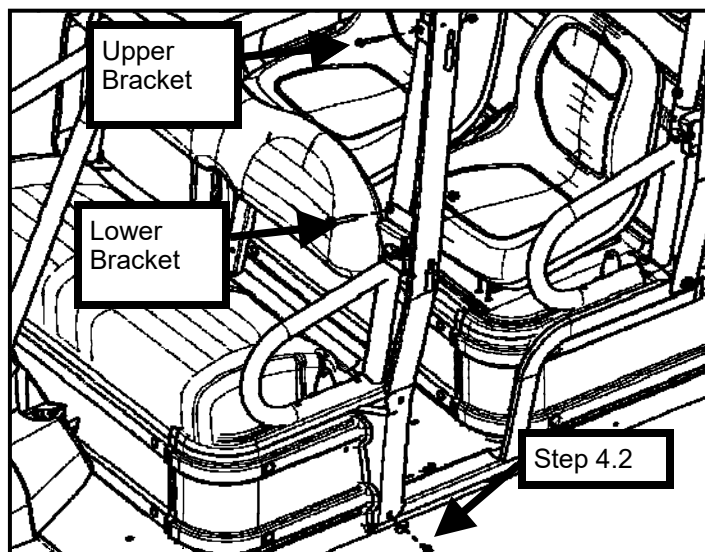

Figure 4.1: B-Pillar panel, (left shown)
- (1) M10 x 1.50 Flanged nut
Place the B-pillar panel onto the side of the Carryall over the center ROPS tube, then place one (1) 5/16 x 2-1/2" bolt through the upper bracket, one (1) M10 x 70mm bolt through the lower bracket and through the holes in the ROPS and secure with a 5/16" and 10mm nut, respectively. Leave bolts loose (**Figure 4.1**).
- (1) 5/16 Fender washer
- (2) 5/16-18 Flanged nut
Connect the B-pillar to the front of the rear floorboard with two (2) 5/16 x 3/4" bolts and nuts. Leave loose. (**Figure 4.1**).